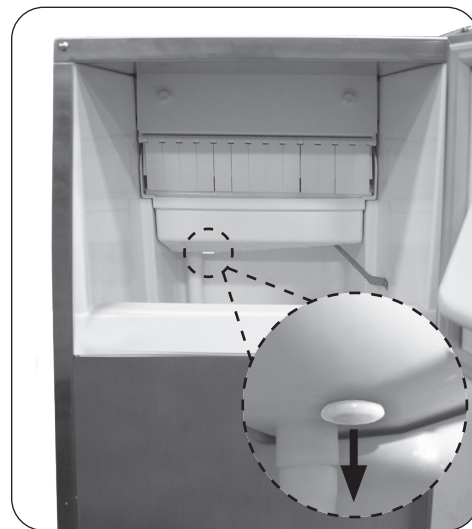

Fig. 15-2 Remove plug
5. Remove the plug from underneath the water container (see Fig. 15-2).